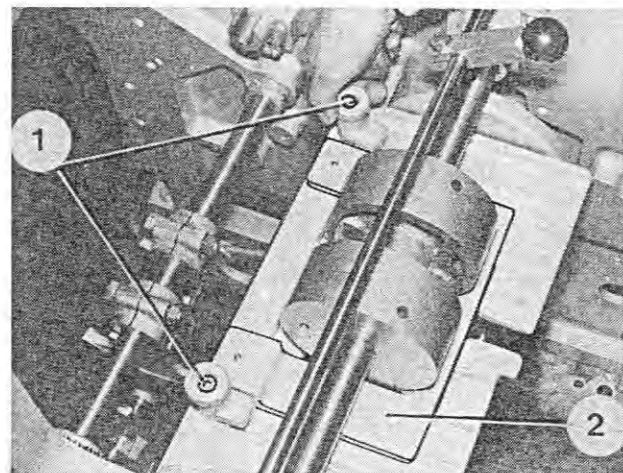

Fig. 262
3. Raise the clamping pieces on both sides (Figure 262/1) and turn them away from the holder-down (Figure 262/2). Remove the holder-down.